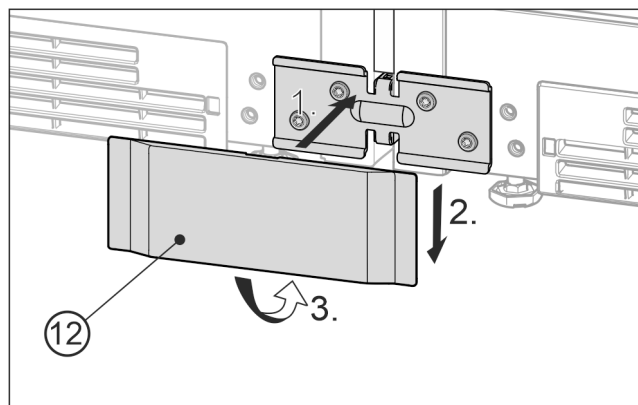

Fig. 21 Example illustration
- Place the bottom cover Fig. 21 (12) onto the bracket from the front Fig. 21 (1), slide it down Fig. 21 (2) and snap it in at the bottom Fig. 21 (3).